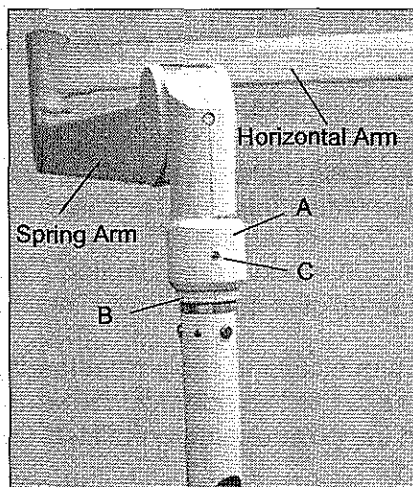
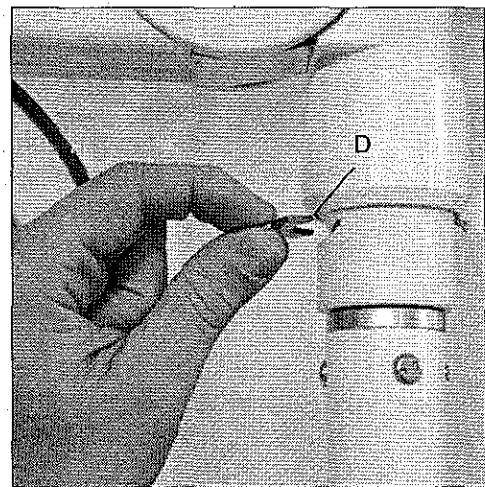
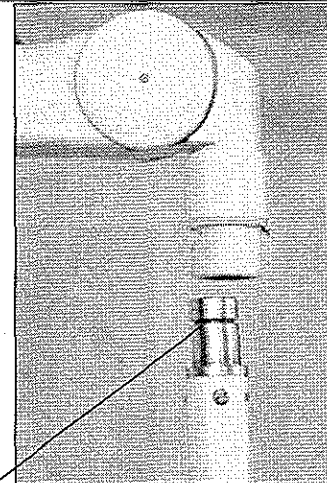

Figure 5-27a: Articulating Arm
Figure 5-27b: Semi-lunar Retainer
Figure 5-27d: Injector Mounting Arm Removed
- a. Collar (A) on the Spring Arm of the Articulating Arm is secured to sleeve (B) with screw (C) (see Figure 5-27a) located opposite the semi-lunar groove (see Figure 5-27b). Remove Phillips screw (C).
- c. While holding onto the Injector Mounting Arm, remove the semi-lunar retainer (D) and remove the arm with the Injector on it (see Figure 5-27d). **Do not allow the Injector Mounting Arm with the Injector to drop.**
- a. Carefully insert the Injector Mounting Arm into the Spring Arm's sleeve (see Figure 5-27d) and insert the semi-lunar retainer (D) evenly into the slot in the sleeve (see Figure 5-27b). Make certain that it engages the groove in the Injector Mounting Arm.
- b. Remove screw (C). Lower collar (A) back to its original position and secure with Phillips screw (C) (see Figure 5-27a).